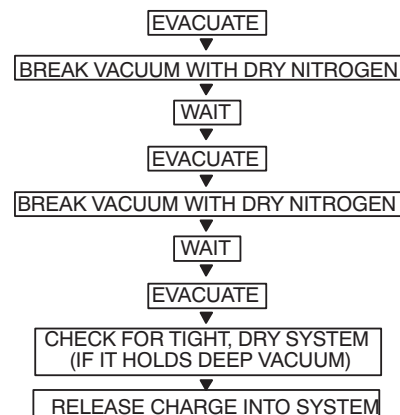

Fig. 21 — Triple Evacuation Method
The triple evacuation method should be used when vacuum pump is not capable of pumping down to 500 microns and system does not contain any liquid water. Refer to Fig. 21 and proceed as follows:
5. Repeat this procedure as indicated in Fig. 21. System will then be free of any contaminants and water vapor.